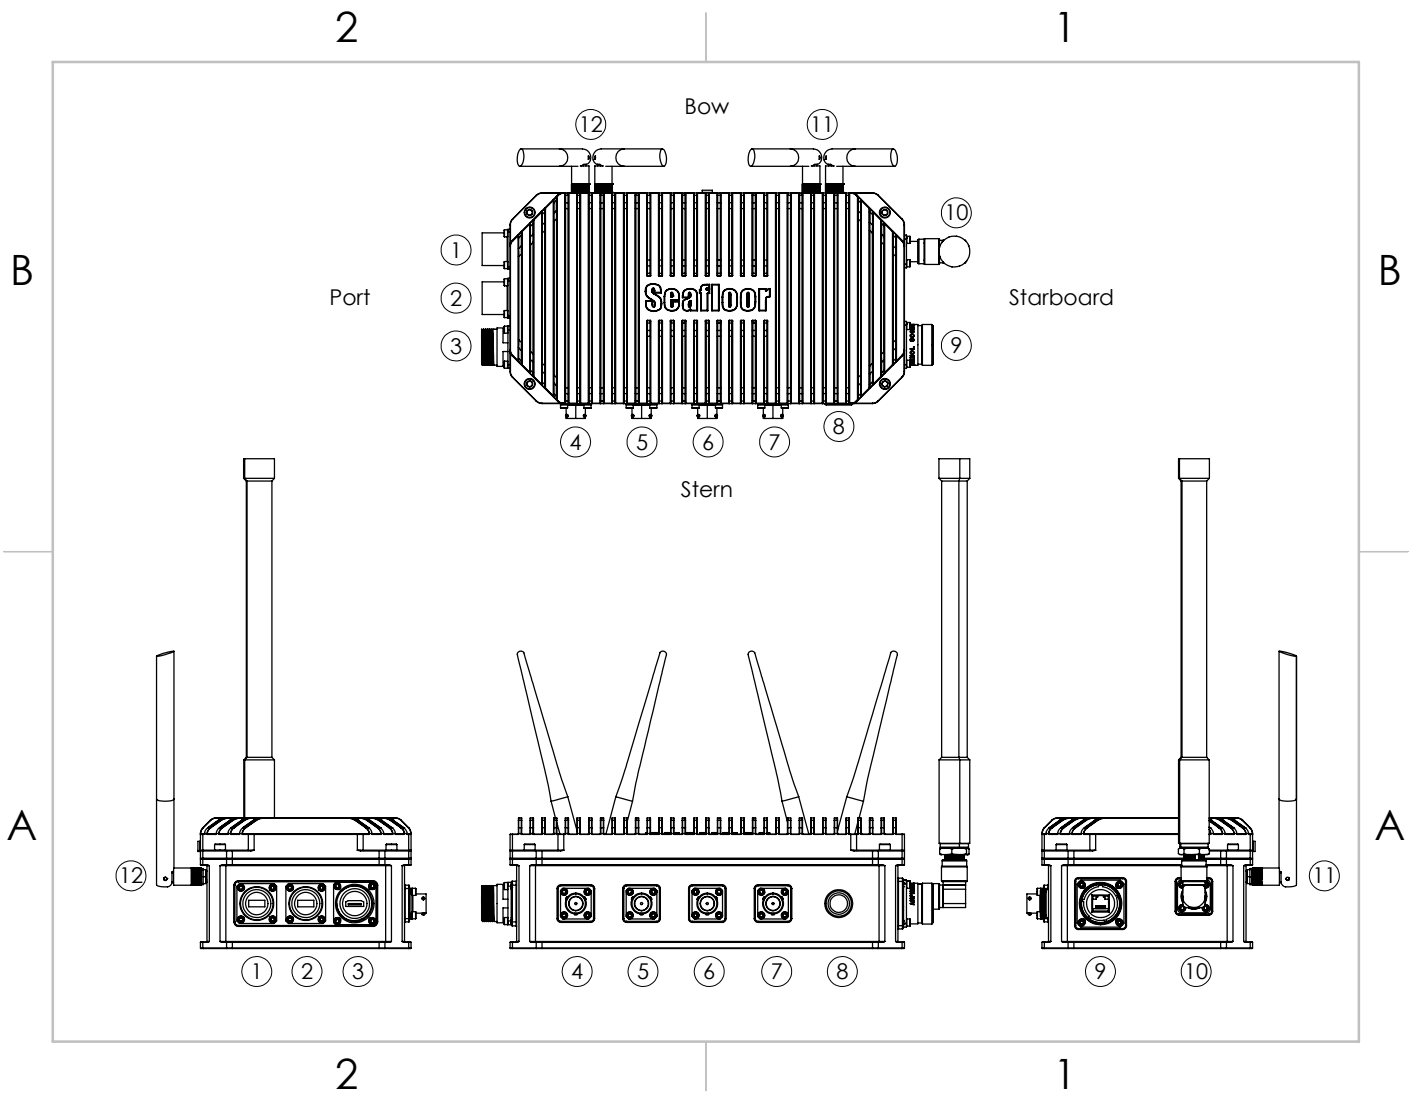

Figure 5: AutoNav Plus™ Layout
16. Place the AutoNav Plus™ on the Hydrone™ frame. Power button facing the stern. (Figure 5)